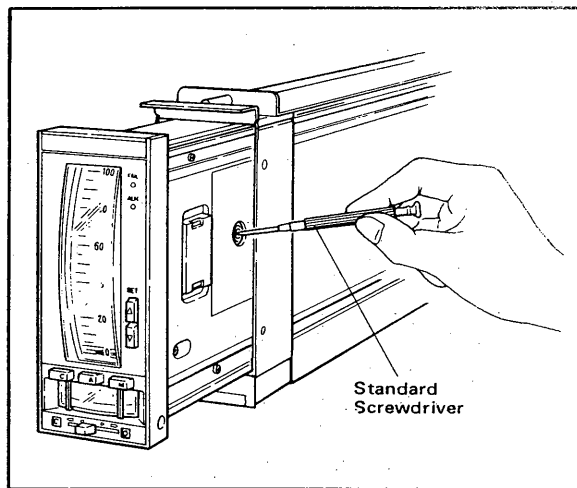

Figure 6-2. Zero Adjustment of Set Point Value Indicator.
- (3) Thereafter, make adjustments as in Section 6-2-1. See Figure 6-2 for the zero adjustment of set point value indicator.